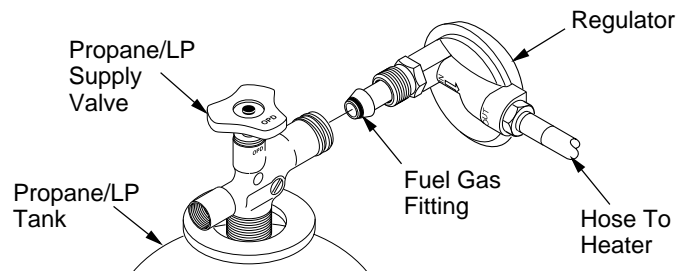

Figure 11 - Regulator Position
5. Connect fuel gas fitting on hose/regulator assembly to propane/LP tank(s). Turn fuel gas fitting counterclockwise into threads on tank. Tighten firmly using a wrench. **IMPORTANT:** Position regulator so that hose leaving the regulator is in a horizontal position (see Figure 11). This places the regulator vent in the proper position to protect it from the weather.